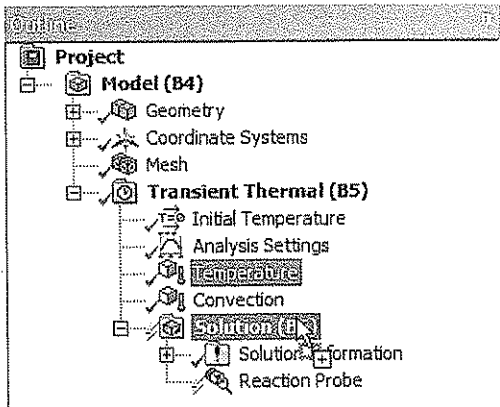

Figure 11-34 Dragging and dropping Temperature from the Transient Thermal node into the Solution node
1. Drag **Temperature** from the **Transient Thermal** node in the Tree Outline and drop it in the **Solution** node, refer to Figure 11-34, **Reaction Probe** is added to the **Solution** node.